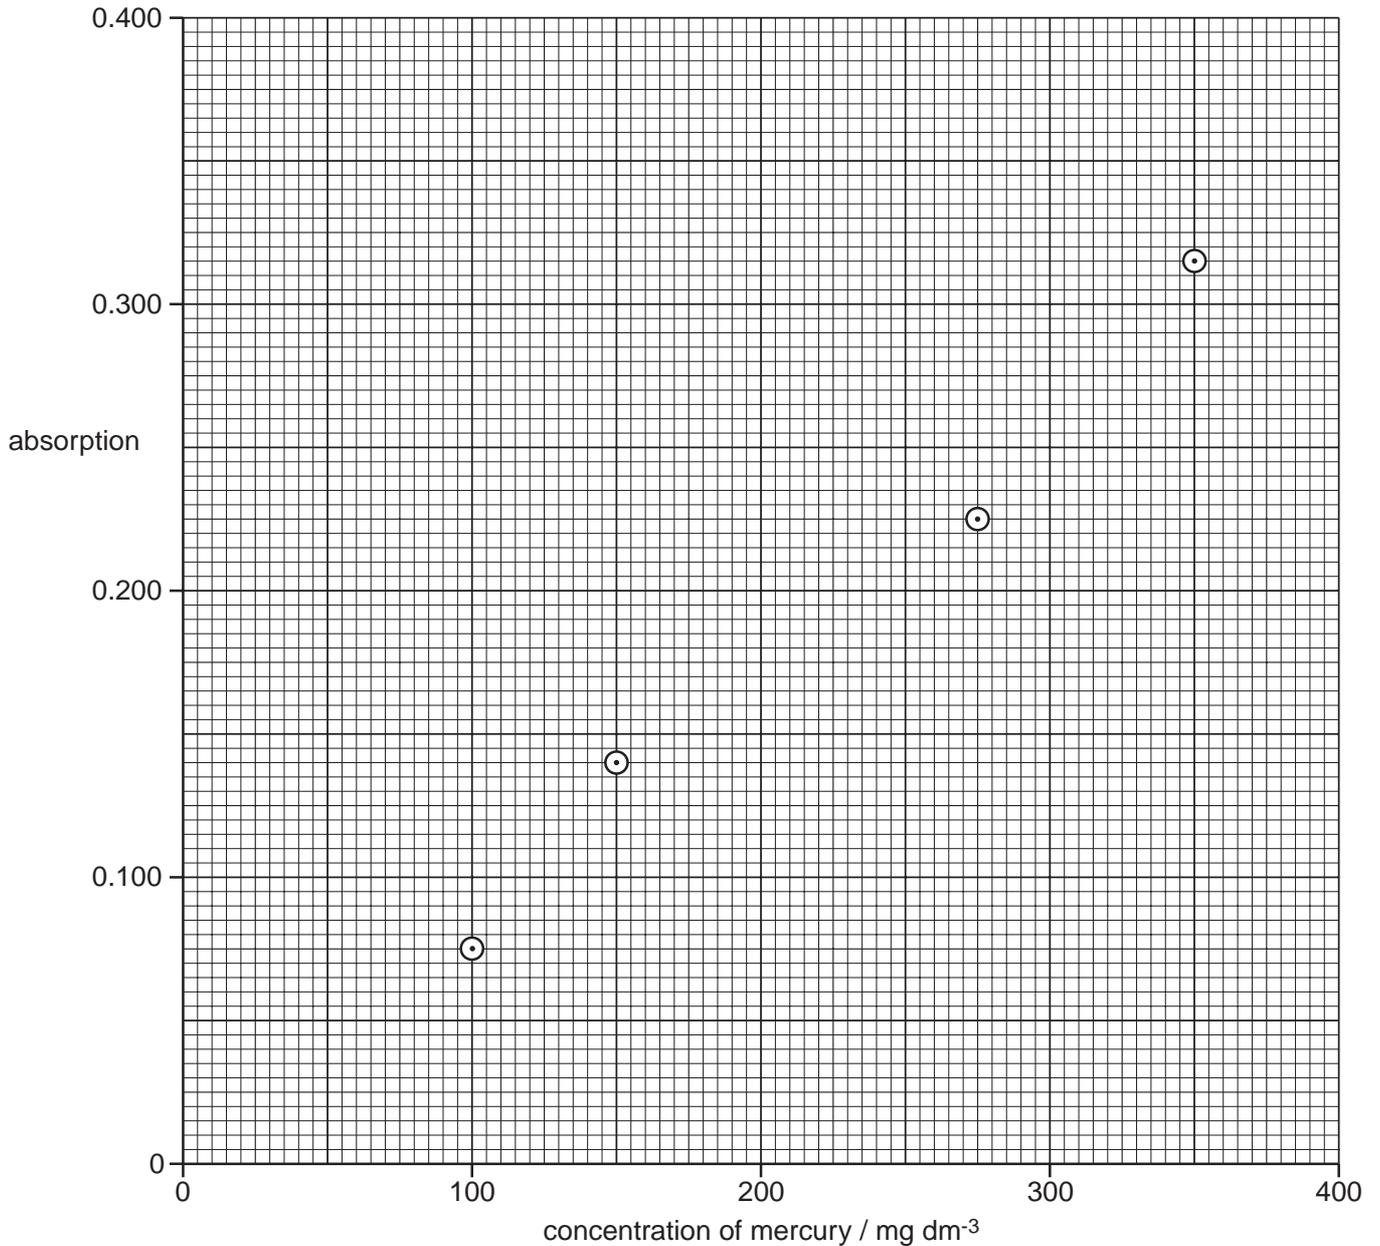

Fig. 1.1
- (e) Analysis of the samples for mercury is done by atomic absorption spectroscopy (AAS). A calibration curve is prepared using standard solutions containing mercury. The results are shown in the graph, Fig. 1.1.
- (i) Draw a straight line of best fit on Fig. 1.1. [2]